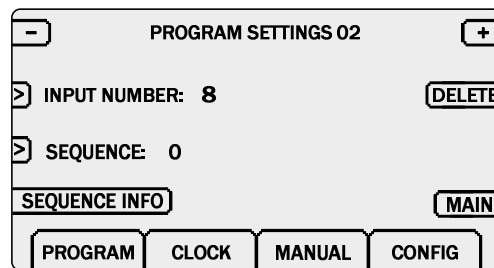

Figure 10 Start signals programming screen
- 2 Up to 8 start signals can be programmed. Use the + and – keys (Figure 10) to choose a program setting (1 to 8). Press the INPUT NUMBER key and enter the number of the input with the keypad.
- 2 Use the + and – keys (Figure 10) to choose a program setting.